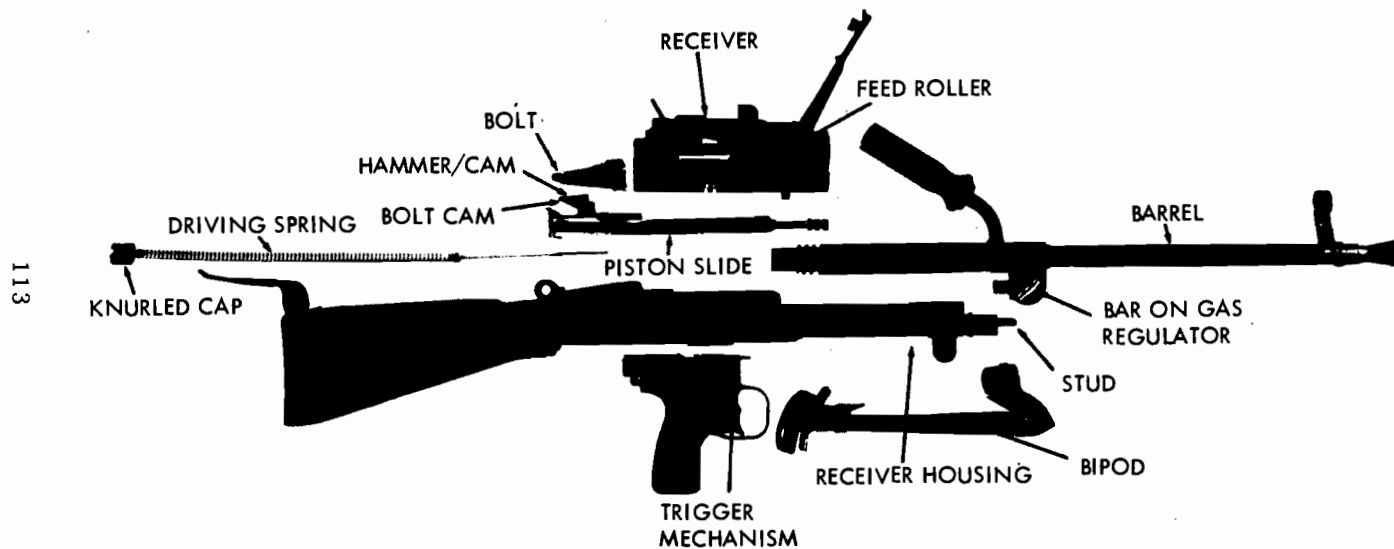

Figure 56. Vzor 52 light machinegun, field-stripped.
c. Reach into the channel in the front of the receiver housing and move the piston to the rear until it is just clear of the gas cylinder. Grasp the receiver (fig. 56) at its front
e. When the sear releases the slide, the compressed driving spring forces the slide, piston, and bolt forward. The feed rib on the bolt strips a cartridge from the magazine or belt and drives it into the chamber. The cartridge rim seats in the fixed extractor at the bottom of the bolt face; the movable extractor then keeps the round in position. When the cartridge is fully seated in the chamber, the bolt stops its forward motion. The slide continues to move forward, and the combined hammer and cam (fig. 56) forces the rear of the bolt up into its locked position. In the last forward travel of the slide, the hammer strikes the firing pin to fire the cartridge.